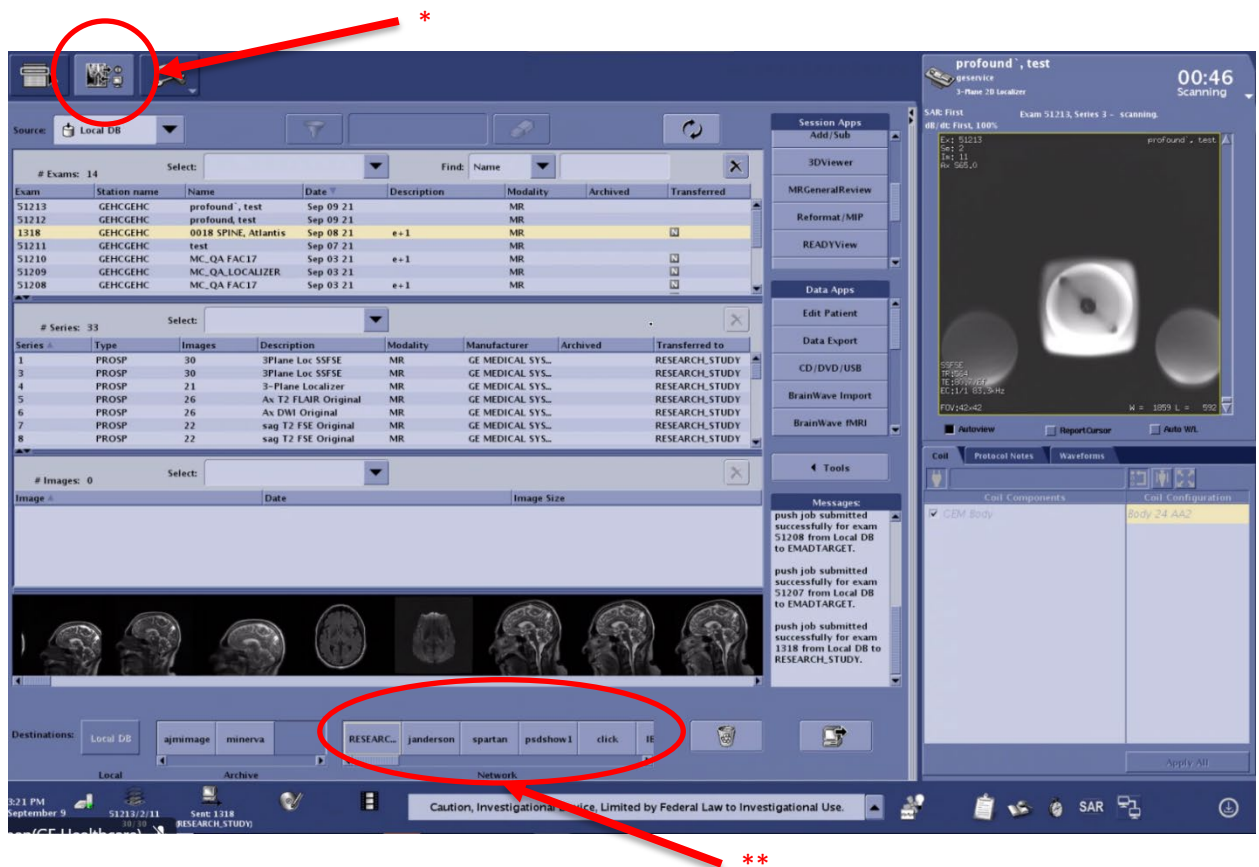

Figure 31. Pushing planning images from the MRI to TDC.
- In the **Destinations** list near the bottom of the screen, scroll horizontally and click on the **TULSAPRO** network node to send images to the TDC (Figure 31).